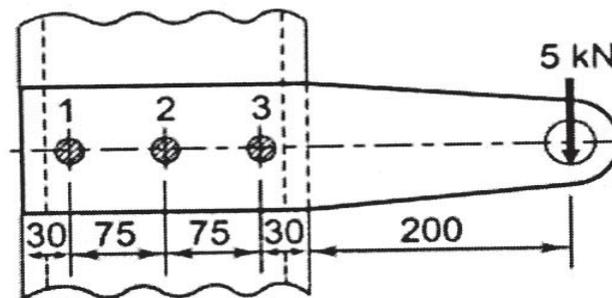

Fig.3
- b) A steel plate subjected to a force of 5 kN and fixed to a channel by means of three identical bolts is shown in Fig.3. The bolts are made from plain carbon steel 45C8 ($S_{yt} = 380 \text{ N/mm}^2$) and the factor of safety is 3. Specify the size of bolts. [12]